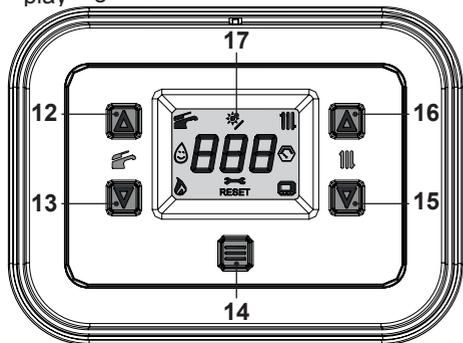

Fig. 2.5
- Press the key 14 for 1 second until both  and  symbols appear on the display Fig. 2.5.